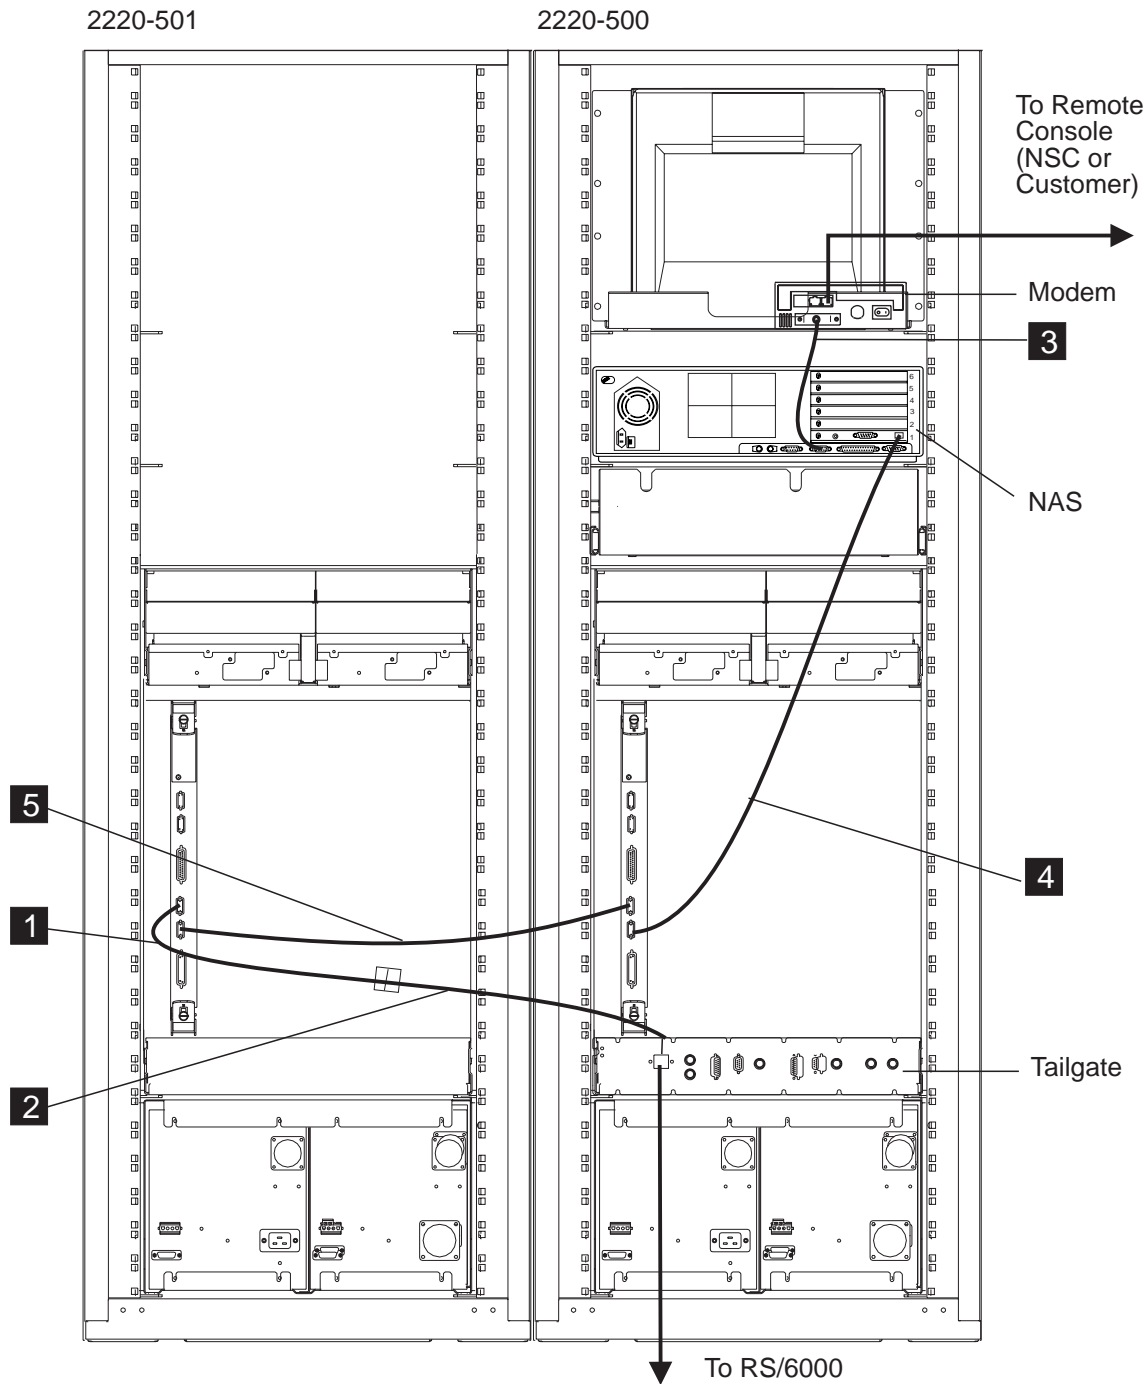

Figure 3-14. Connection of the 2220-501 to the NAS (Type 7585) and APC Type A
2. \_\_\_\_ Refer to Figure 3-14 on page 3-17, obtain from the shipping group cable **1** (PN 80G0782) and plug this cable from connector 4 of the APC module plugged in the 2220-501 and to the connector of cable **2** coming from the APC tailgate of the 2220-500.